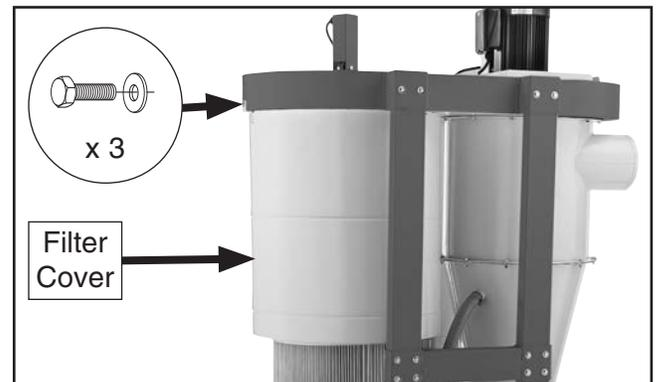

Figure 31. Canister filter cover installed.
32. With help from an assistant, tilt filter cover to clear stand base and canister filter, then lift cover up to impeller housing and secure using (3) 5/16"-18 x 3/4" hex bolts and (3) 5/16" fender washers (see **Figure 31**).